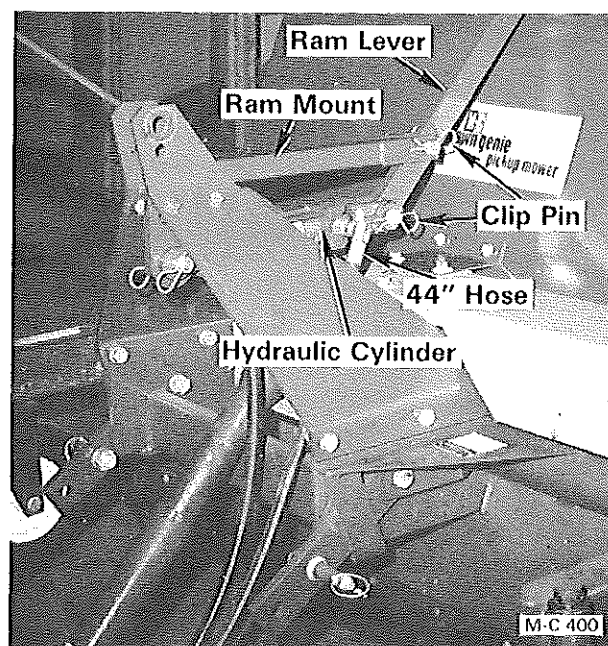

Figure 3
4. Install the 44" hydraulic hose in the rear port of the hydraulic cylinder, see Figure 3, and the 34" hydraulic hose in the front port of the hydraulic cylinder.